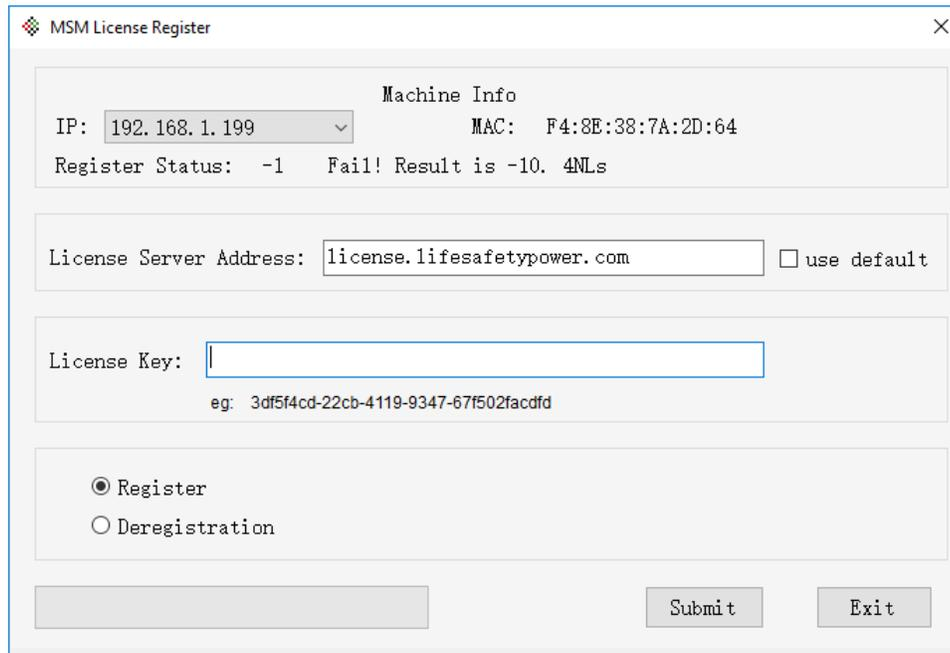

Figure 20
1. Open MSM Server, if not already opened, and click "Register" in the top menu bar to show the licensing window. (Figure 20).